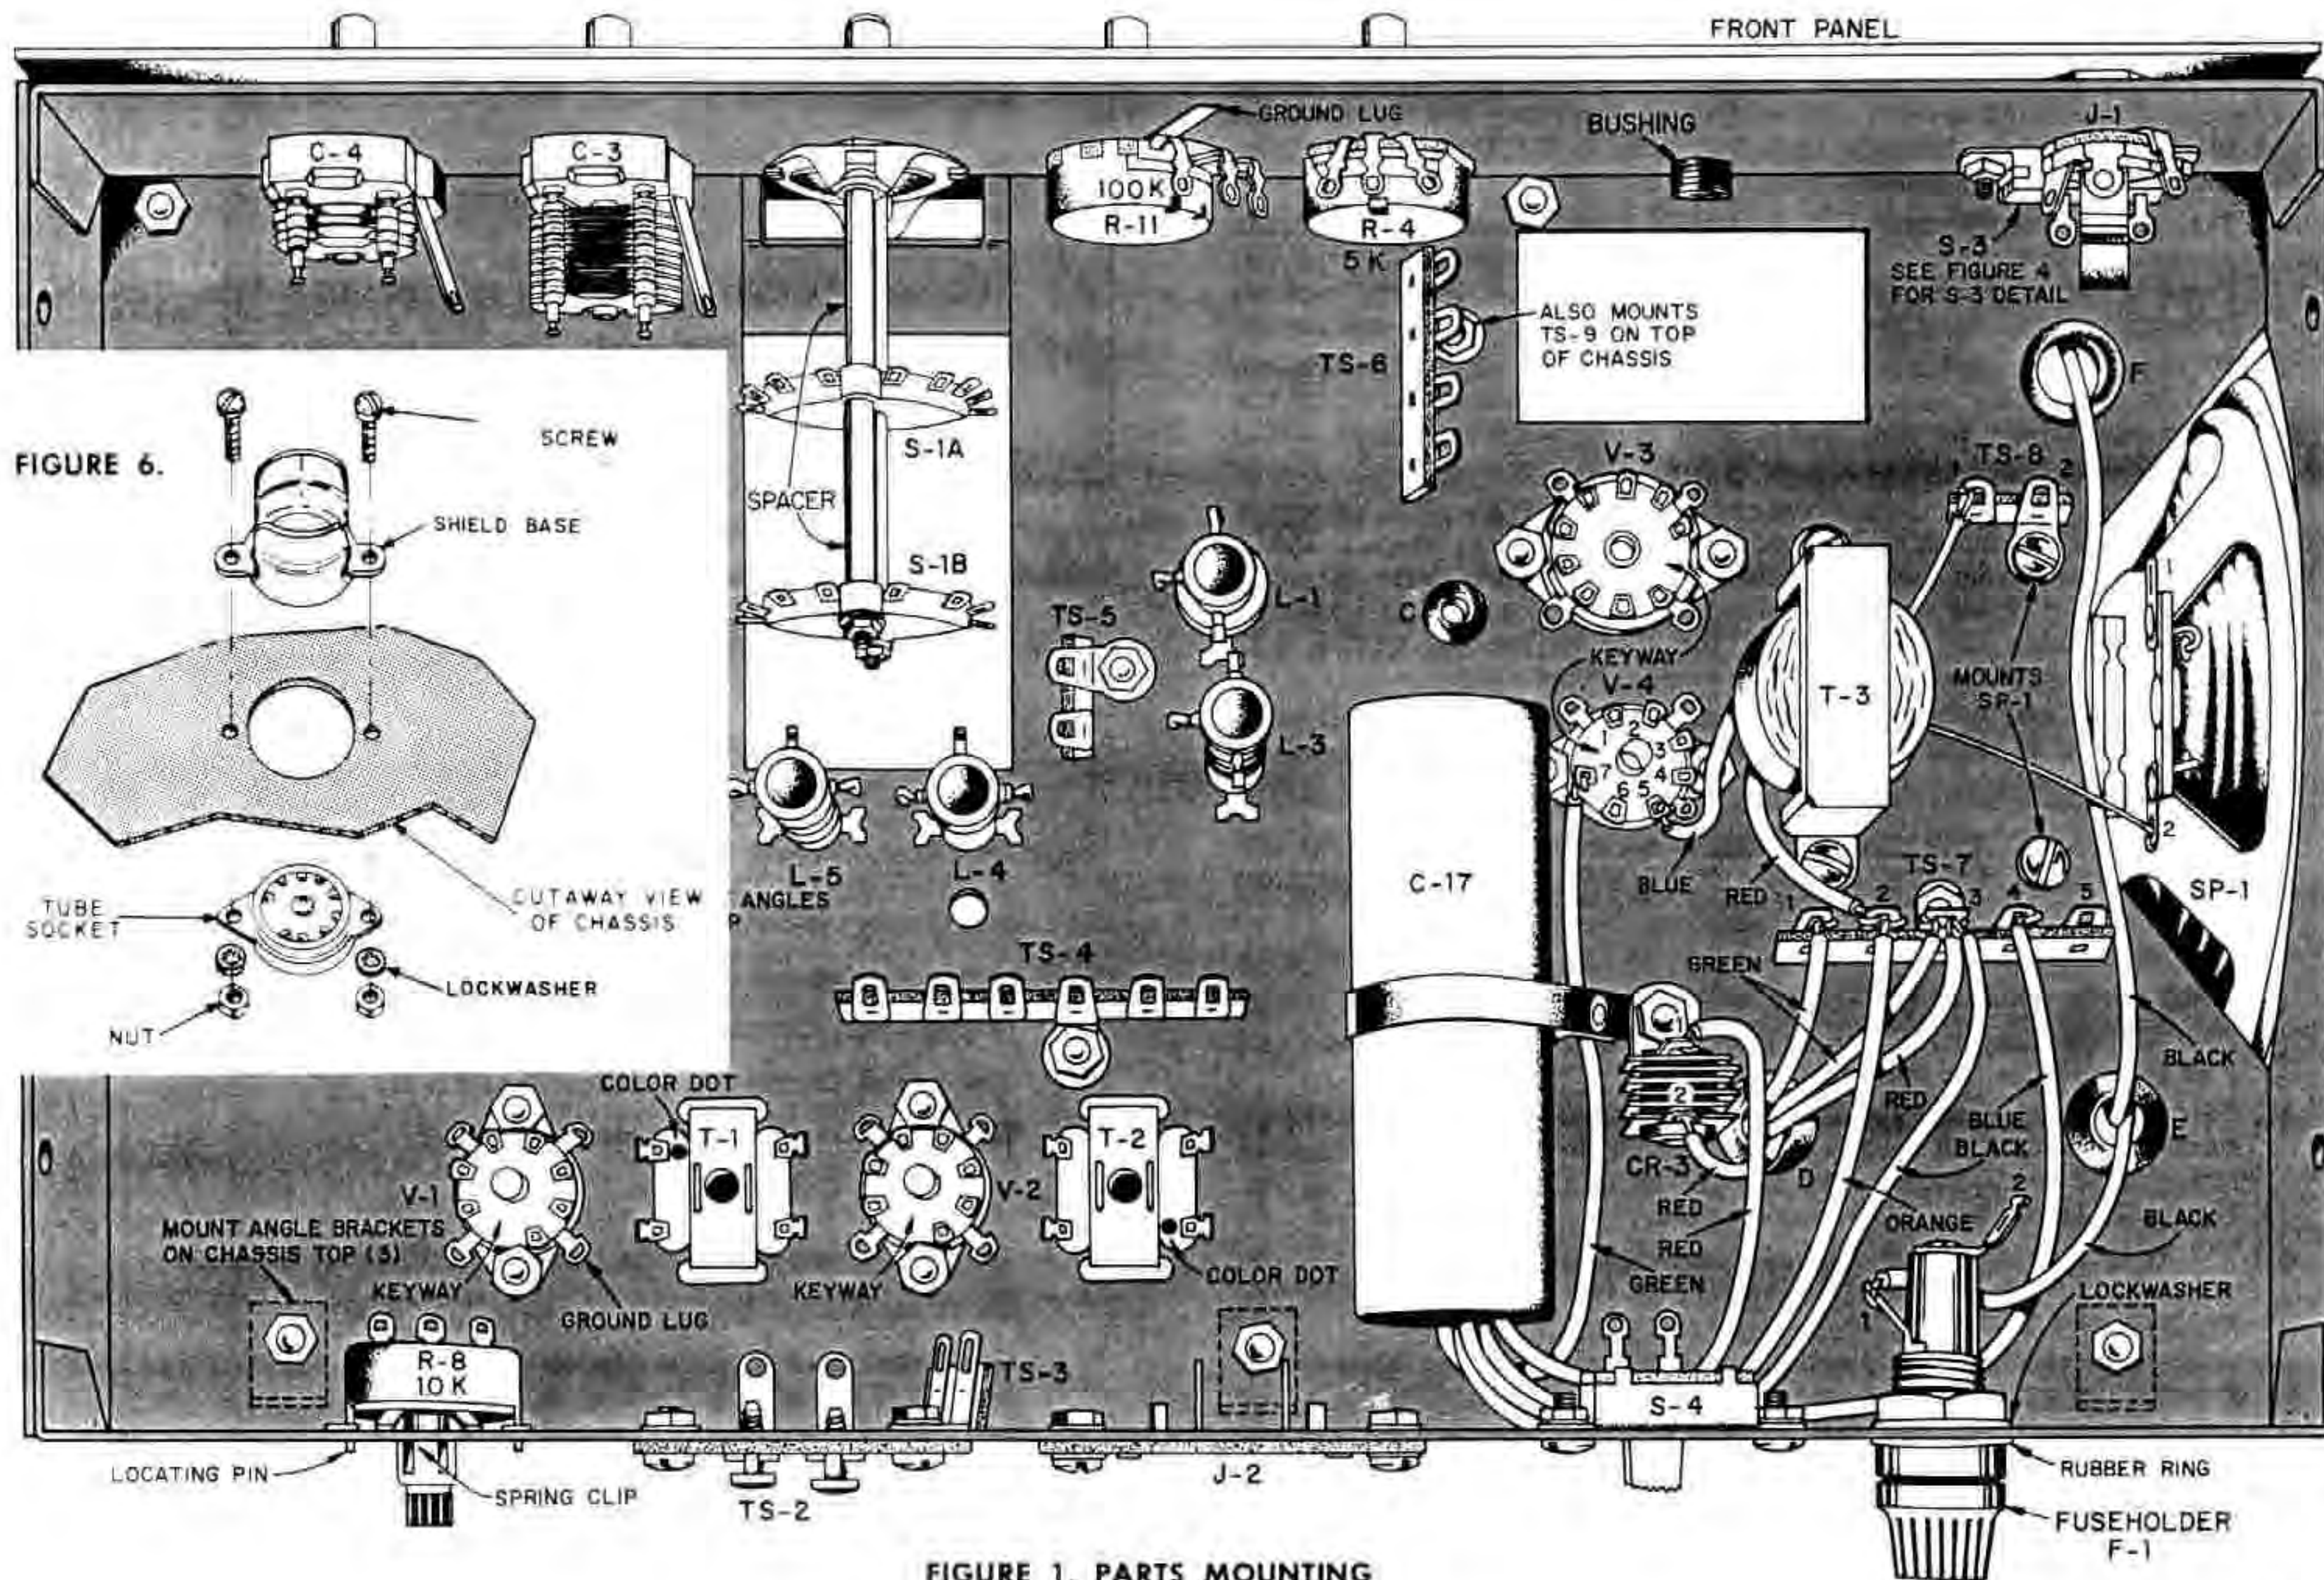

FIGURE 1. PARTS MOUNTING
- ✓ T-1, IF transformer stamped T-1. Position the color dot as shown in Figure 1. Mount with a "U" clip as shown in Figure 8.
- ☐ C-2 tuning capacitor with large drive pulley attached. Position on top of the chassis, with the plates of the capacitor opening toward the front panel as shown in Figure 16. Place a #8 lockwasher on each of two 8-32 screws. Fasten C-2 by inserting the screws from inside the chassis, into the threaded holes in C-2, through the holes labeled for C-2, in Figure 1.
- ☐ From inside the chassis, fasten the screw near the edge of the chassis with a lockwasher and nut. Mount TS-7, a 5-terminal strip, on the other screw used for T-4. Fasten with a lockwasher and nut. Make sure TS-7 is positioned as shown in Figure 1.
SEE FIGURE 1.